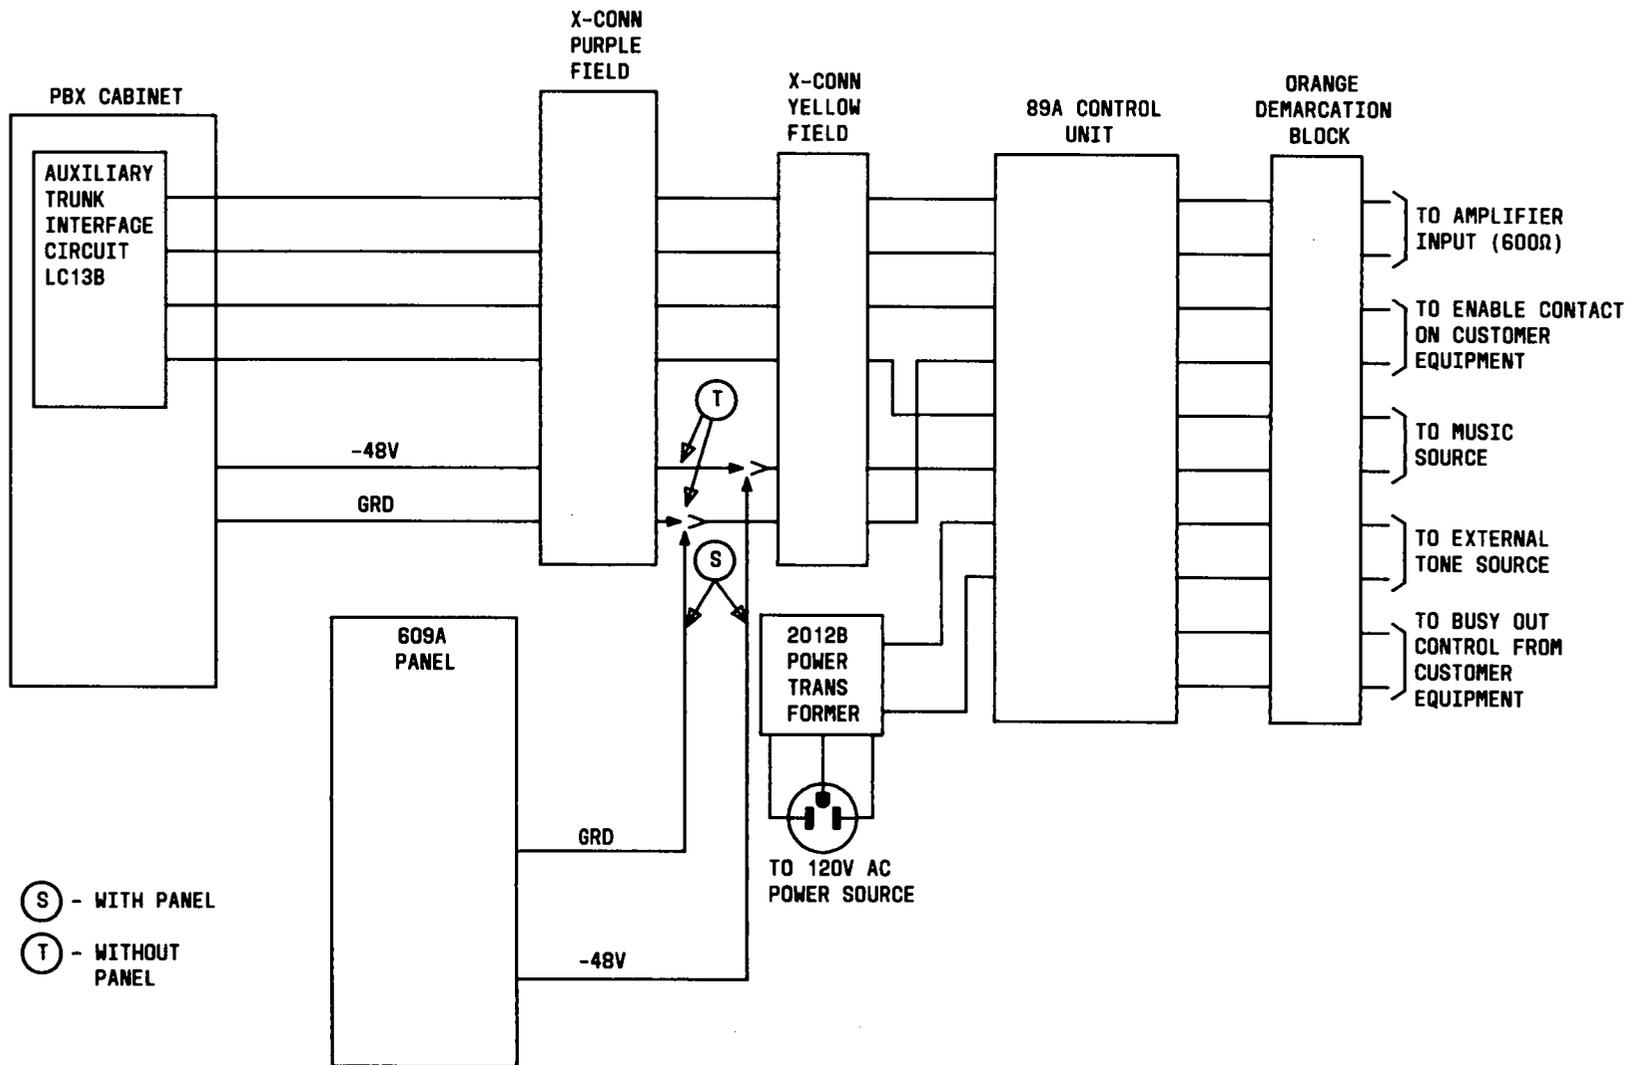

Fig. 30—Loudspeaker Paging Connections
4.88 Up to three LC13B auxiliary circuit packs can be cross-connected to paging equipment allowing a maximum of six paging zones. Connections for loudspeaker paging are illustrated in Fig. 30.